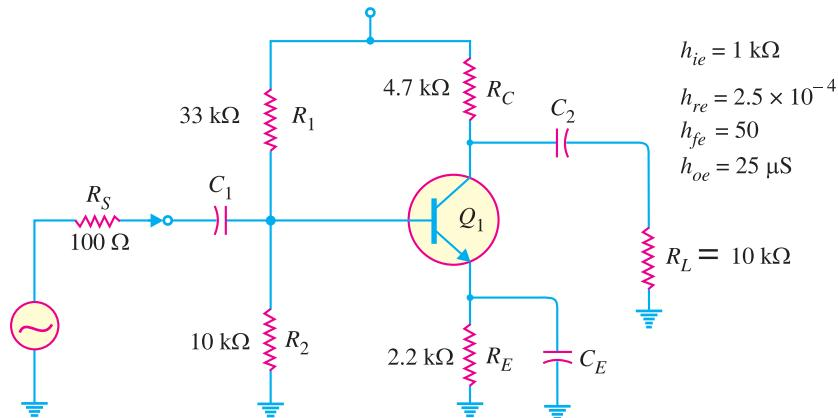

Fig. 24.12
**Example 24.7.** Find the value of current gain for the circuit shown in Fig. 24.12. The  $h$ -parameter values of the transistor are given alongside the figure.
**Solution.** Note that the signal source (See Fig. 24.12) has resistance  $R_S = 100 \Omega$ .